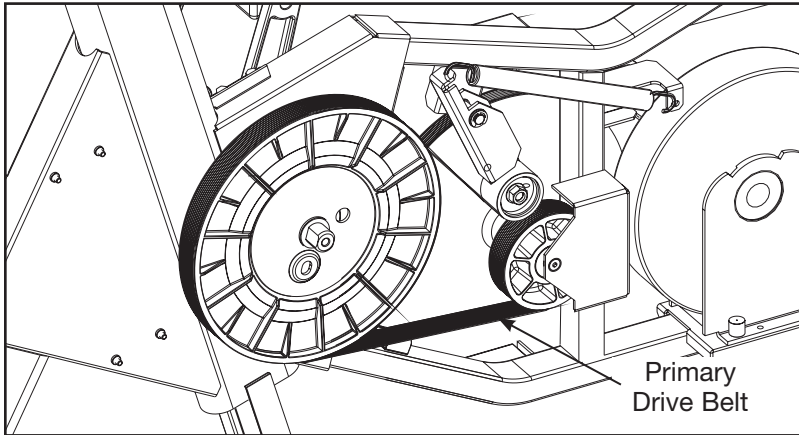

Figure 6
F. Locate Primary and Secondary Drive Belts. See Figures 6 and 7.